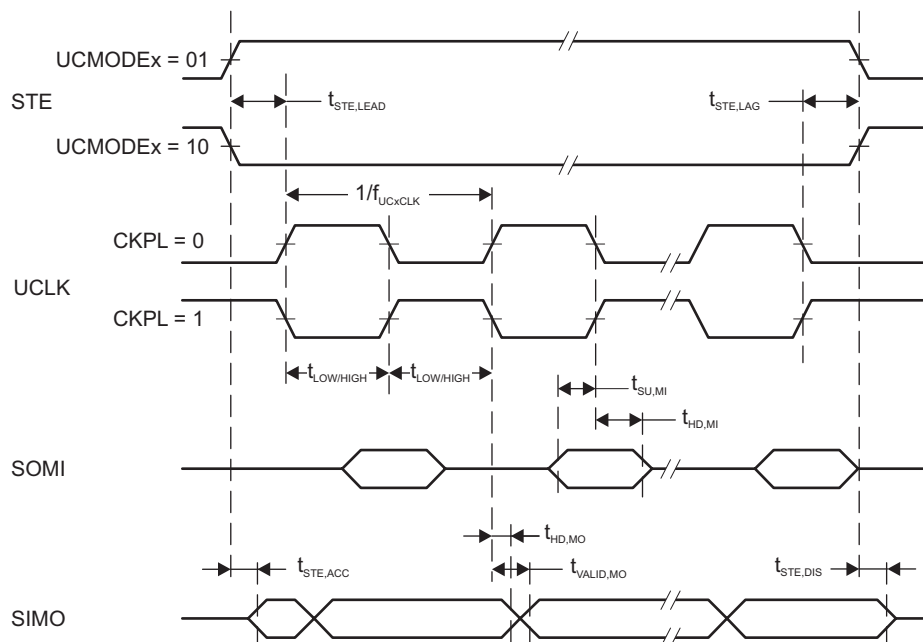
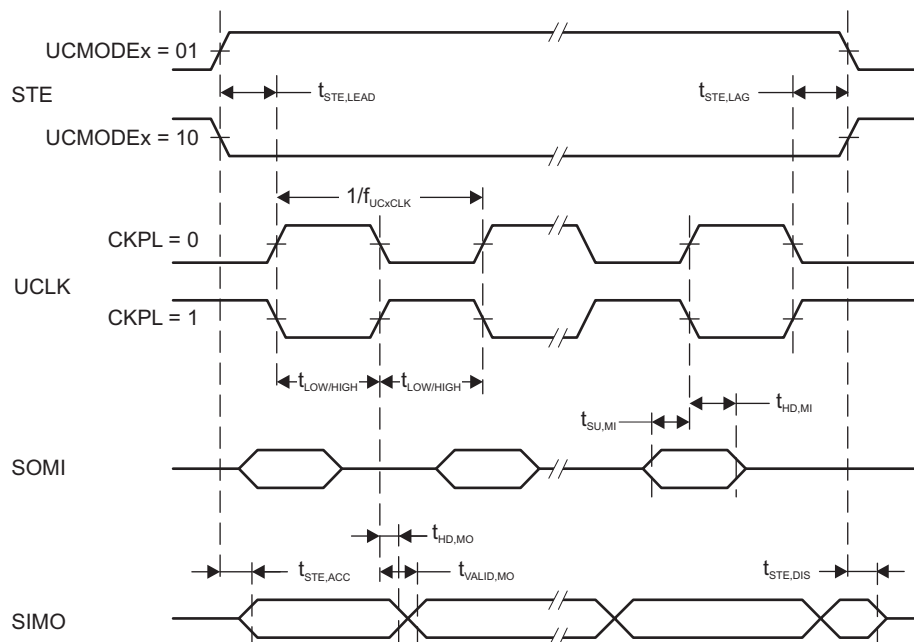

Figure 5-69. SPI Master Mode, CKPH = 0
Figure 5-70. SPI Master Mode, CKPH = 1
(2) Specifies the time to drive the next valid data to the SIMO output after the output changing UCLK clock edge. See the timing diagrams in Figure 5-69 and Figure 5-70.
(3) Specifies how long data on the SIMO output is valid after the output changing UCLK clock edge. Negative values indicate that the data on the SIMO output can become invalid before the output changing clock edge observed on UCLK. See the timing diagrams in Figure 5-69 and Figure 5-70.